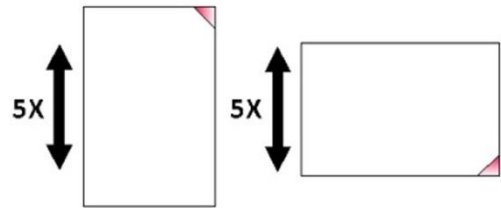

Figure 1: shake pattern for particle separator
- **Quarter turn** en repeat movement (see figure 1)